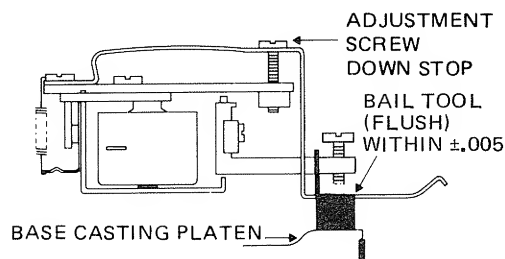

FIGURE 3 HEAD LOAD ACTUATOR DOWN STOP ADJUSTMENT
- Adjust down stop so that the top of Head Load Bail is flush with top of tool within $\pm .005$ " at track 76. Reference Figure 3.